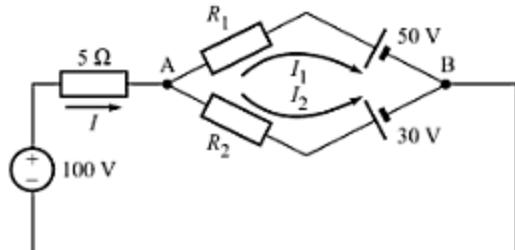

Fig. A-99
- A-63.** In the circuit of Fig. A-99, (a) find  $R_1$  and  $R_2$  such that  $I_1 = 1 \text{ A}$  and  $I_2 = 5 \text{ A}$ , and (b) find  $R_2$  such that  $I_1 = 0$ .